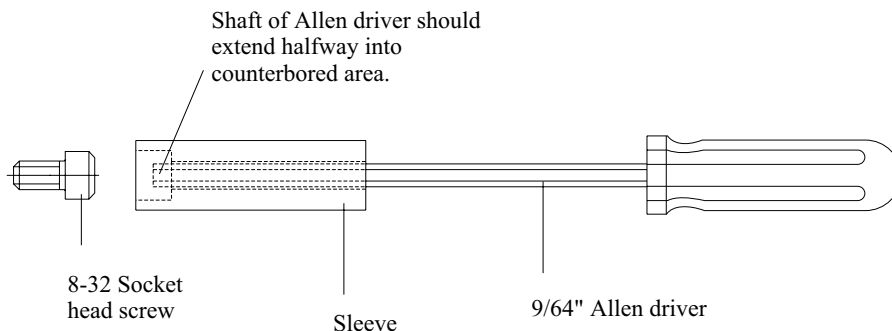

Figure 3-4. Correct arrangement of sleeve on shaft of Allen driver
- 4 Now you are ready to remove the screws that secure the crucible to the crucible mounting flange. To do so, use the special Allen tool provided with the source. This tool consists of a standard 9/64" Allen driver with a sleeve fitted over its shaft (see Figure 3-4). If you are not experienced using this tool, perform step 5 of this procedure. If you are already proficient at using the tool, skip step 5 and proceed to step 6.